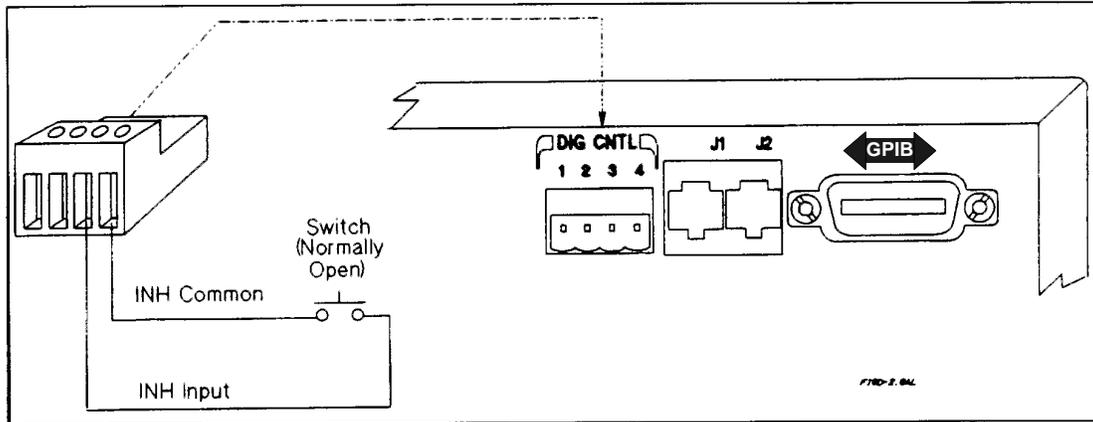

Figure F-2. Example of Inhibit Input
In Figure F-2, the INH input is connected to a switch that shorts pin 3 to pin 4 whenever it is necessary to externally disable the output of the unit. This will activate the remote inhibit (RI) fault protection circuit, causing the front panel **Prot** annunciator to come on. It also sets the RI event bit in the unit's Questionable Status Event register (see "Chapter 8 - Status Reporting"). To re-enable the unit after it has been disabled by the INH input, first open the connection between pins 3 and 4. Then clear the protection circuit either from the front panel (see "Chapter 5 - Front Panel Operation" in this guide) or over the GPIB (see the Programming Guide).